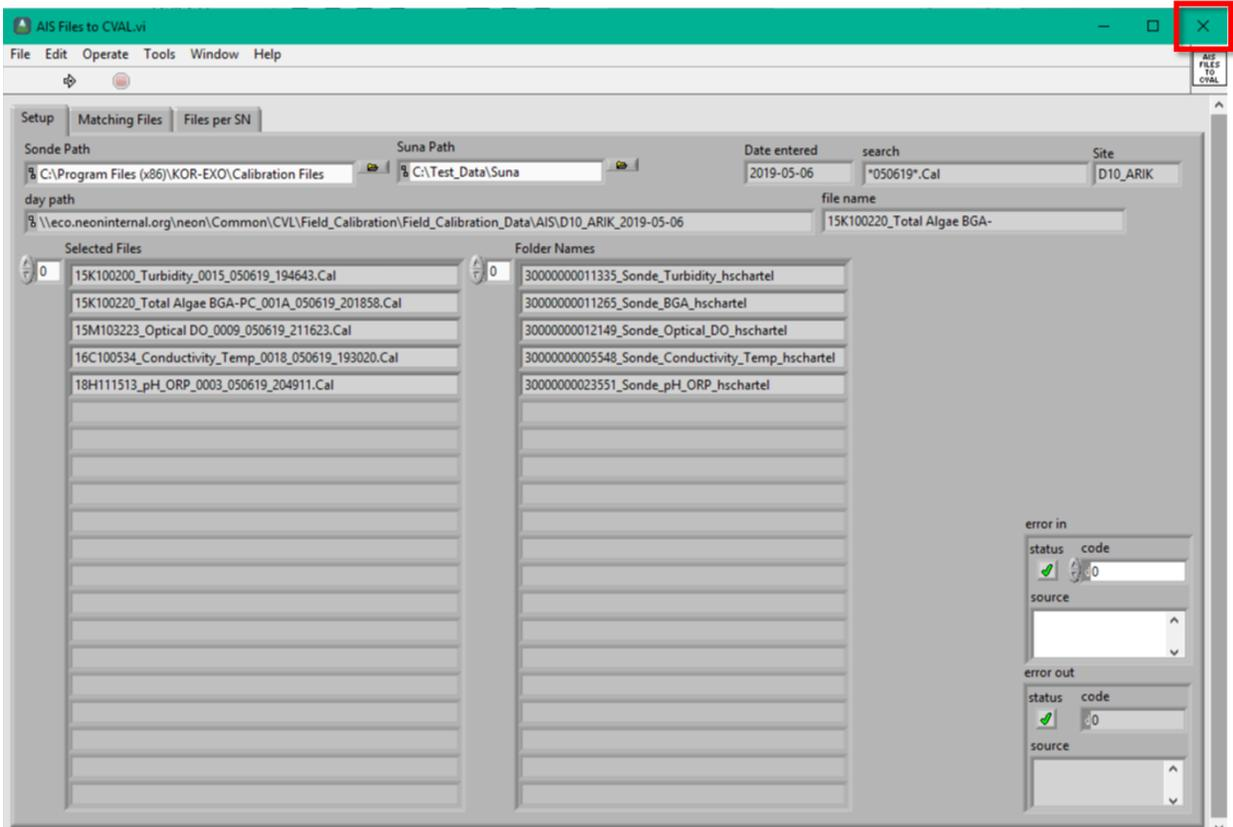

Figure 151. Click the "X" to exit the application
**STEP 8** | Click on the **“X”** to exit the application (**Figure 151**).